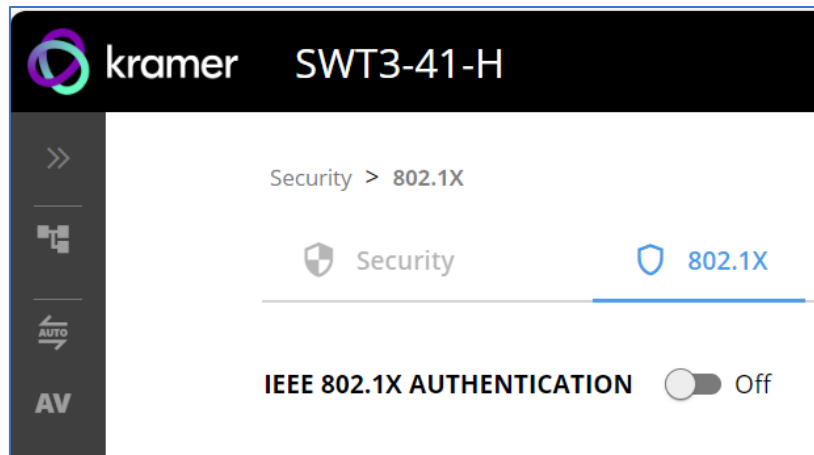

Figure 40: 802.1X Tab
2. Select **802.1X** tab. The 802.1X settings tab appears (see \(Figure 40\)).